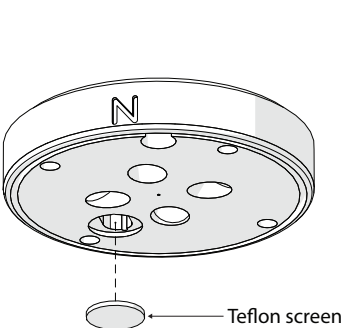

Figure 14 Teflon screen
- d. Observe the Teflon screen (Figure 14) to see if it is dirty.